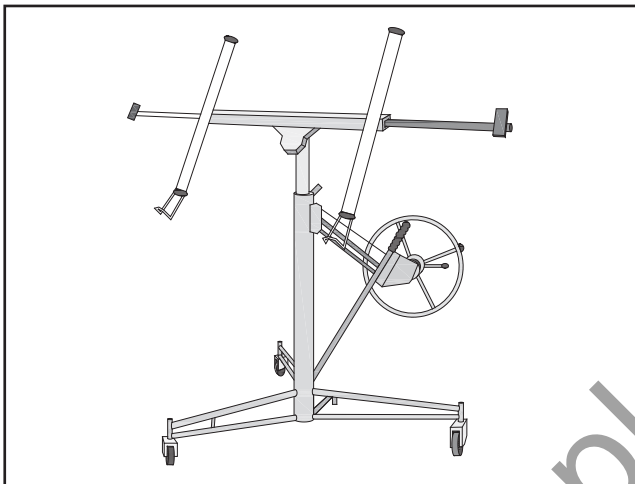

Figure 1.16 Sheet lifter
- **Cranes and hoists**—lift heavy loads without the use of manual handling. They may be hand- or power operated (Figure 1.16).